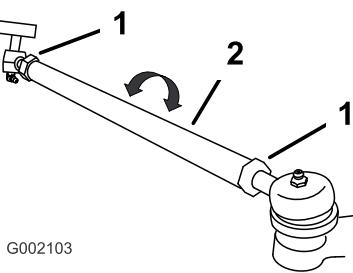

Figure 44
7. If the measurement does not fall within 0 to 6 mm (0 to 1/4 inch), loosen the jam nuts at both ends of the tie rods (Figure 44).